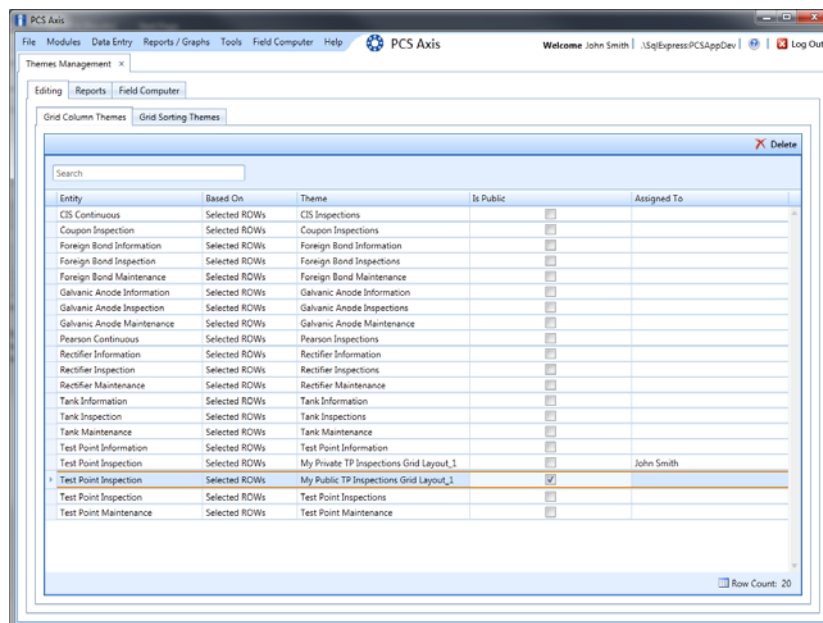

Figure 13-7. Themes Management
- 1 Click **Tools > Themes Management** to open the *Themes Management* window (Figure 13-7, page 526).
- a Select a theme in the grid. In the following example, a *Test Point Inspections* theme addition is selected (Figure 13-7, page 526).